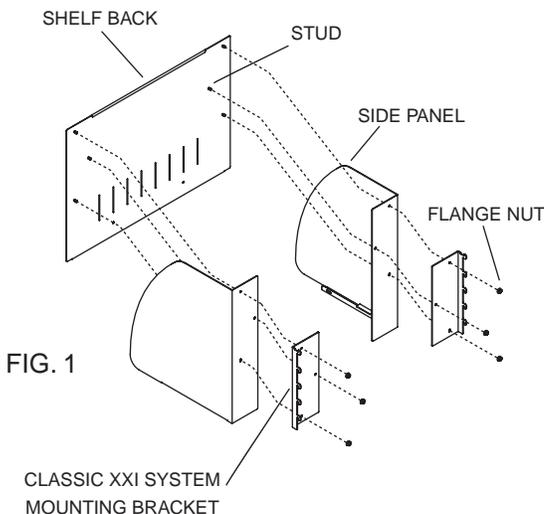

FIG. 1
4. When (2) or more shelf units are installed next to each other, secure them together with a ganger plate. The ganger plate is an oval shaped plate with two holes that is attached near the front edge of the end panels on the adjacent shelf units, using (2) #8 x 5/8" black screws. (Figure 1, page 2-2-6).
2. Rotate the rear of the divider down until the rear tab snaps into the vertical slot in the cabinet back (Figure 1).